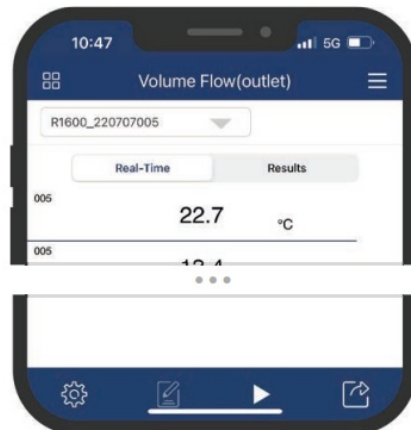
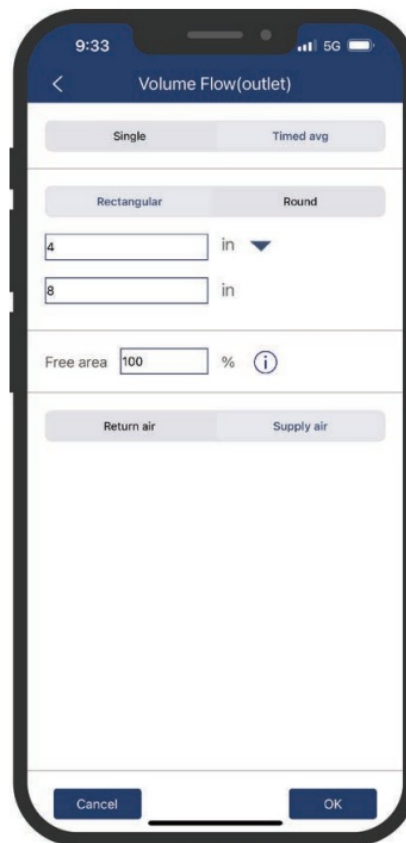

Figure 31
Figure 32
2. While in the application screen, tap the  icon (Figure 31) to access the duct sizer setup menu. (Figure 32)